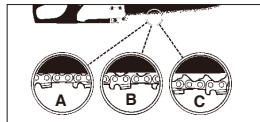

Fig. 5
CAUTION: If saw chain is TOO LOOSE or TOO TIGHT, the sprocket, bar, chain, and crankshaft bearings will wear more rapidly. Study Fig. 5 for information concerning correct cold tension (A), correct warm tension (B), and as a guide for when saw chain needs adjustment (C).